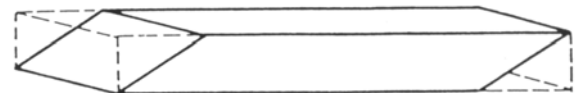
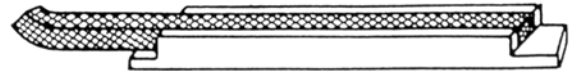

Fig. 13 – Slanted cut of the packing
Fig. 14 – Packing rings cutting device
- Cut new packing rings, if possible with oblique edges (see Fig. 13). To facilitate this cutting operation a very simple device may be constructed as shown in Fig. 14.